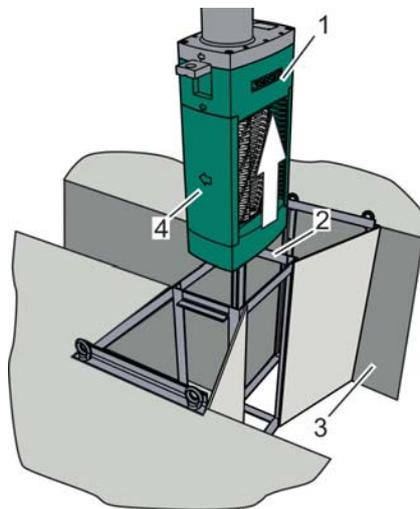

Fig. 65: Lifting the machine from the reception structure, example
4. → Carefully lift machine (Fig. 65/1) out of the reception structure (Fig. 65/2) of the channel/shaft (Fig. 65/3) and transport it to the mounting surface.